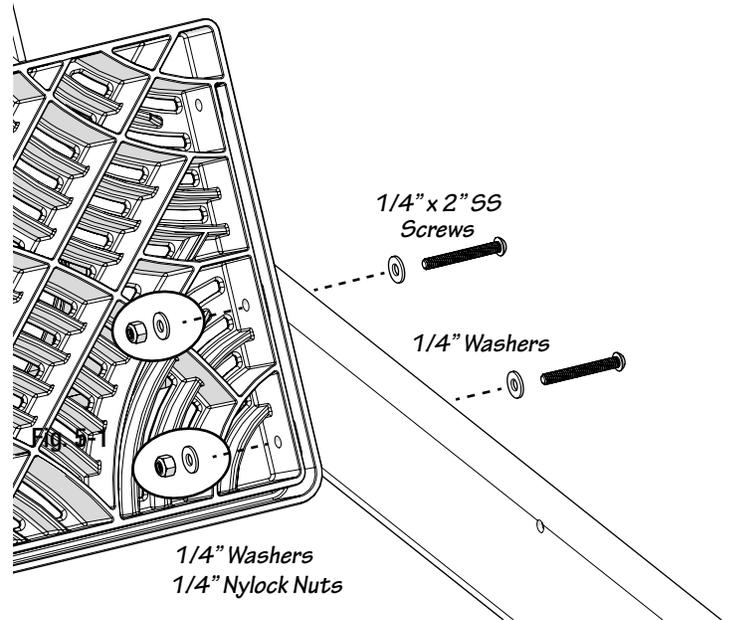

Fig. 5-1
- Align the Nauti Step mounting holes with the two inserted frame screws (see Fig. 5-1).